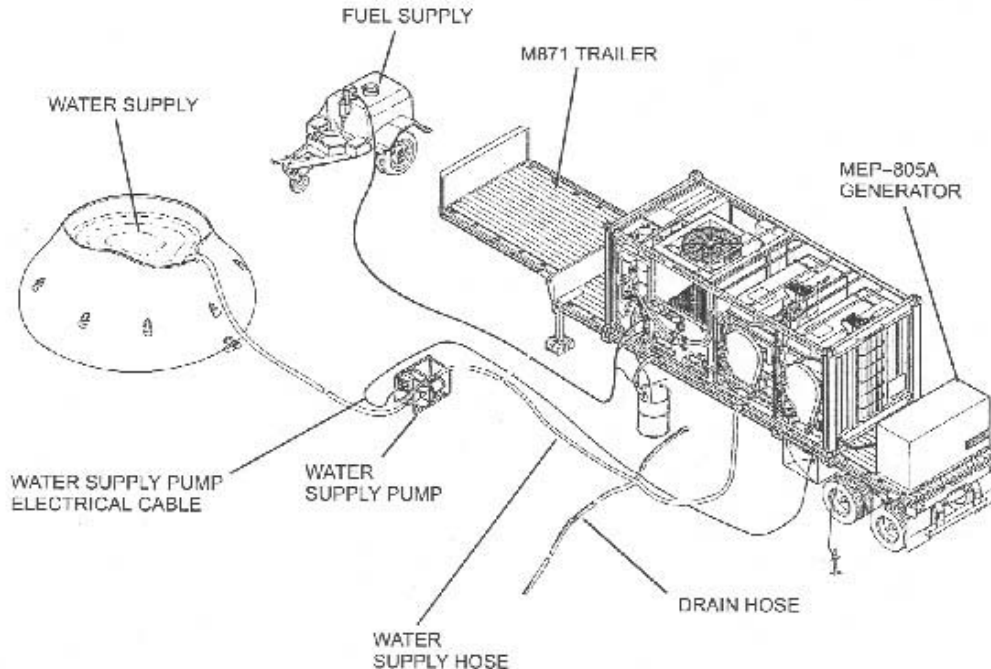

Figure 3-36
- e. Electrical Power -- Normally LADS will be powered by the MEP--805A Tactical Quiet Generator Set contained on the same M871 semi-trailer as the LADS. If other 208 VAC, 50--60 Hz, 3 Phase electrical power is utilized 100 ft of electrical cable is provided. The external power source can be setup anywhere within 100 ft, however, it should not be set up so close to LADS that equipment such as forklifts, cranes, etc. cannot be moved around LADS to facilitate maintenance. It is also recommended that the electrical cable between the power source and LADS be routed in a manner that will prevent equipment traffic from continually running over or stopping on a cable. (See Figure 3-36)